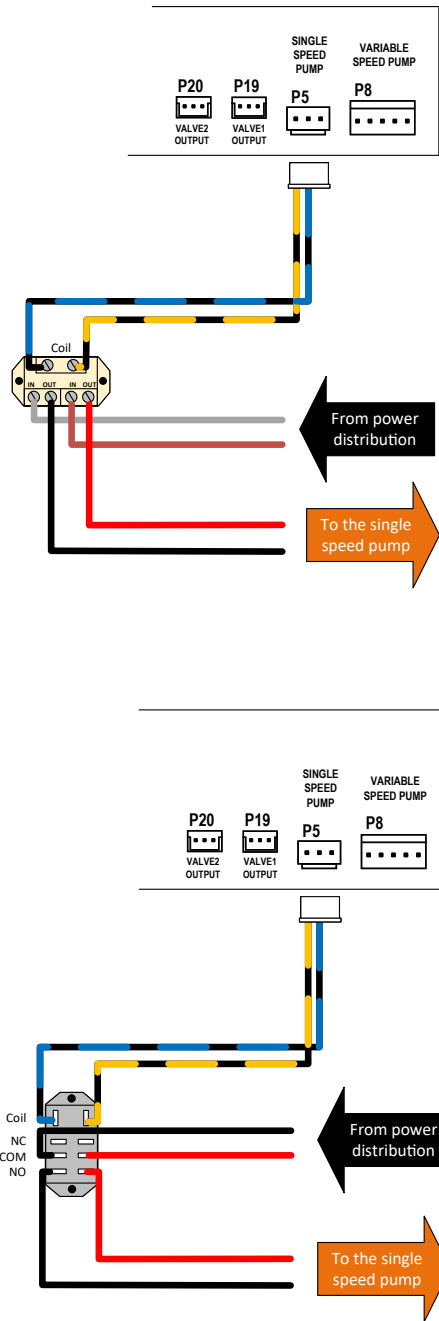

Figure 137. 24VAC Relay Wiring
4. Use the harness adapter supplied in the accessory bag labeled as “single-speed pump” to connect the field-supplied relay to the terminal of the control board marked as “PUMP” [P5]. Connect the other end of the harness to the coil terminals of the relay, as shown in Figure 137.
5. Connect the wires coming from the pump and the power distribution box to the relay contact terminals, as shown in Figure 137.